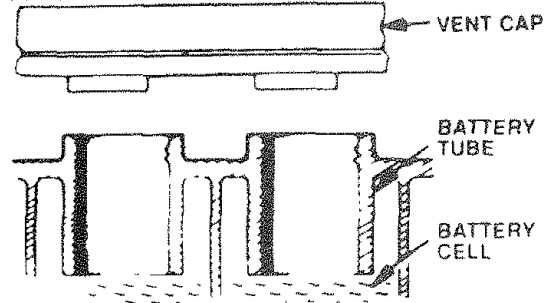

FIGURE 22
- Battery acid level in each battery cell should be even with bottoms of tubes in cells (Fig. 22). Add **ONLY** distilled water if necessary. **NOTE: DO NOT OVERFILL.**